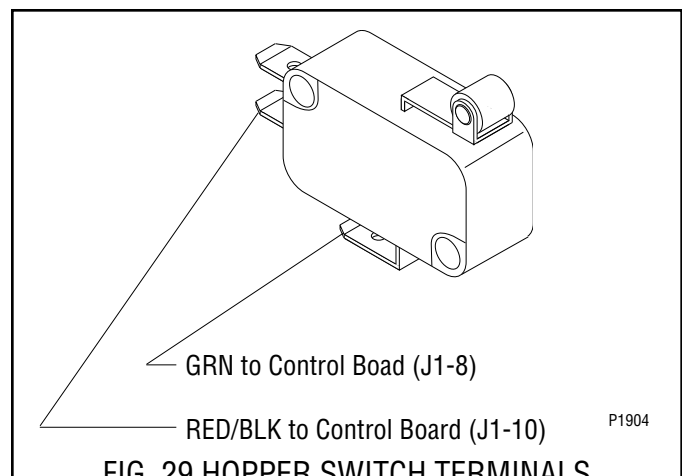

FIG. 29 HOPPER SWITCH TERMINALS
8. Refer to Fig. 29 and reconnect the wires.